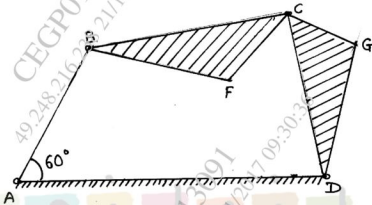

Fig. 2
- (b) The Fig. 2 shows four link mechanism. The link AB has angular velocity of 10.5 rad/s in counterclockwise direction. Find velocity of midpoint of link DGC and angular acceleration of link BCF. The dimensions of links are $AD = 100$ mm, $AB = 50$ mm,